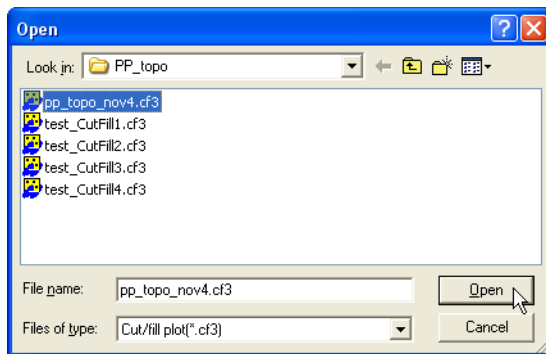

Figure 9-1. Open Cut/fill File
2. On the **Open** dialog box, navigate to the location of the file, select the file type as Cut/fill plot (*.cf3), select the desired file, and press **Open** (Figure 9-1).
After opening a Cut/Fill file, the main screen displays (Figure 9-1).